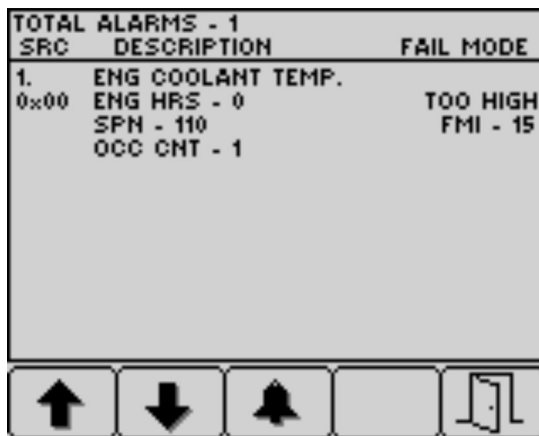

Figure 45
4. Press button 5 to exit the active fault list and return to the home screen (Figure 45).
5. Press button 5 to exit the active fault list and return to the home screen; refer to Figure 45 in Engine Advisories Messages \(page 40\).